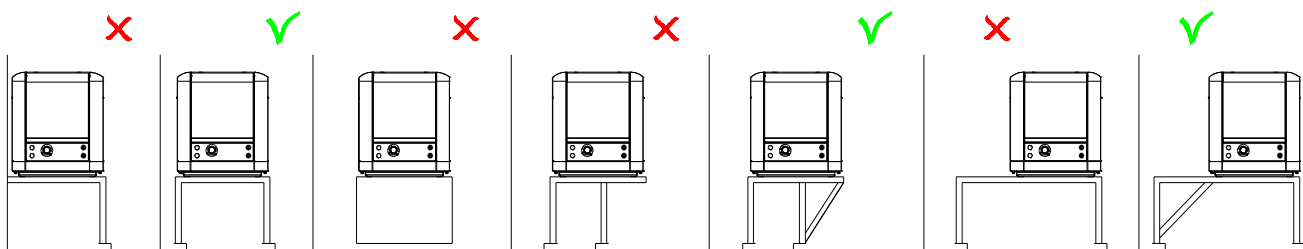

Figure 4: Mounting of the WhisperPower genverter.
- 1 Most importantly, the structure on which the genverter is placed must be stiff. Directly below the base frame, the structure should be supported vertically to the chassis of the vehicle. When this is not possible horizontal structures should be made stiff by additional provisions (Figure 4).
- 5 Never connect the base of the genverter directly to walls or tanks (Figure 4).